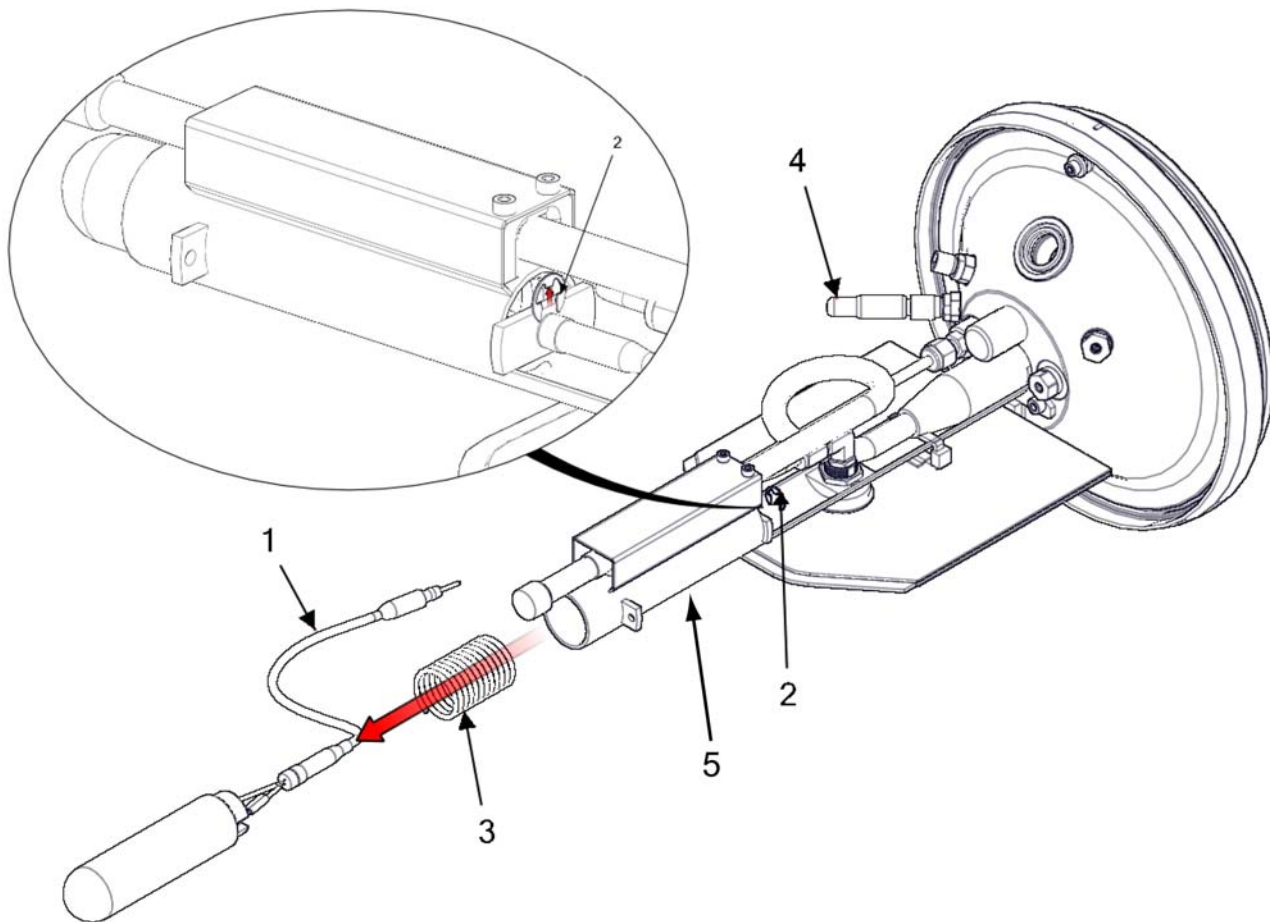

Figure 2-37 *Weight release assembly.*
1. Remove the E-ring (Figure 2-37, Item 2) that secures the weight release assembly (Figure 2-37, Item 1) within the aft channel. It may be necessary to relieve pressure on the E-ring by depressing the ejection weight before the E-ring can be removed.
2. Disconnect the weight release assembly (Figure 2-37, Item 1) from the weight release assembly connector (Figure 2-37, Item 4).
3. Pull the weight release assembly (Figure 2-37, Item 1) out of the aft channel. (No tools are required.)
4. Make sure the ejection weight spring (Figure 2-37, Item 3) remains in the aft channel.
1. Insert the ejection weight spring (Figure 2-37, Item 3) into the aft channel (Figure 2-37, Item 5).
2. Install the weight release assembly (Figure 2-37, Item 1) through the aft channel (Figure 2-37, Item 5).
3. Connect the weight release assembly (Figure 2-37, Item 1) to the weight release assembly connector (Figure 2-37, Item 4).
4. Install the E-ring (Figure 2-37, Item 2) that secures the weight release assembly (Figure 2-37, Item 1) within the aft channel.